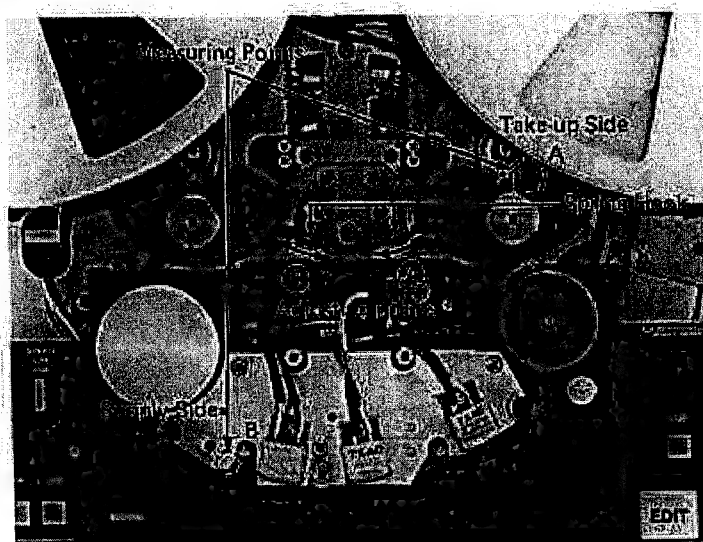

Fig. 9-4-7. Tape Tension Measurement and Adjustment Points
Thread a blank tape onto the deck in the same manner as described in A (2) and set the deck into the edit mode. Measure the tape tension at both the take-up side and supply reel side with a tension analyzer or a tentelometer. The measurement should be made at both the supply side and take-up side at points A and B as shown in Fig. 9-4-7.